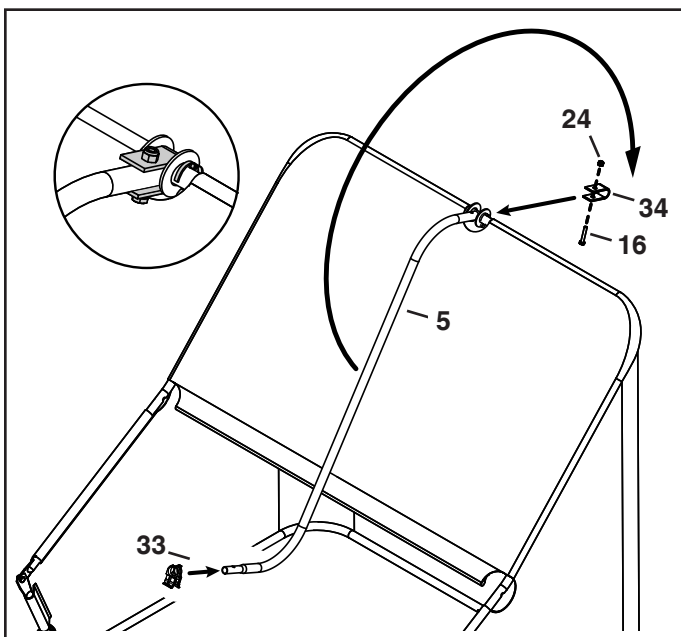

FIGURE 14
STEP 14: (SEE FIGURE 14)
- Slide the dump handle clip (33) onto the dump handle.
- Attach the dump tube to the rear hopper tube using a U-clamp (34), a 1/4" x 1-1/2" hex bolt (16) and a 1/4" nylock nut (24). Install the U-clamp between the washers and cotter pins.